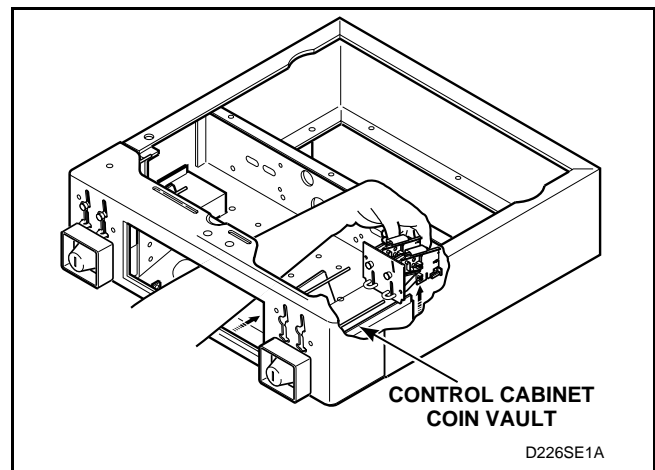

Figure 25
- (1.) Reinstall drop through front opening of control cabinet. Gently lift the drop up onto control cabinet's coin vault. See *Figure 25*.